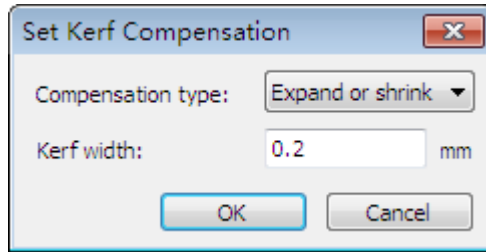

Fig. 4-24 Set kerf compensation
- 2) Select "Set Kerf Compensation" under "Object" menu or under right-click menu to eject a dialog as shown in Fig. 4-24.